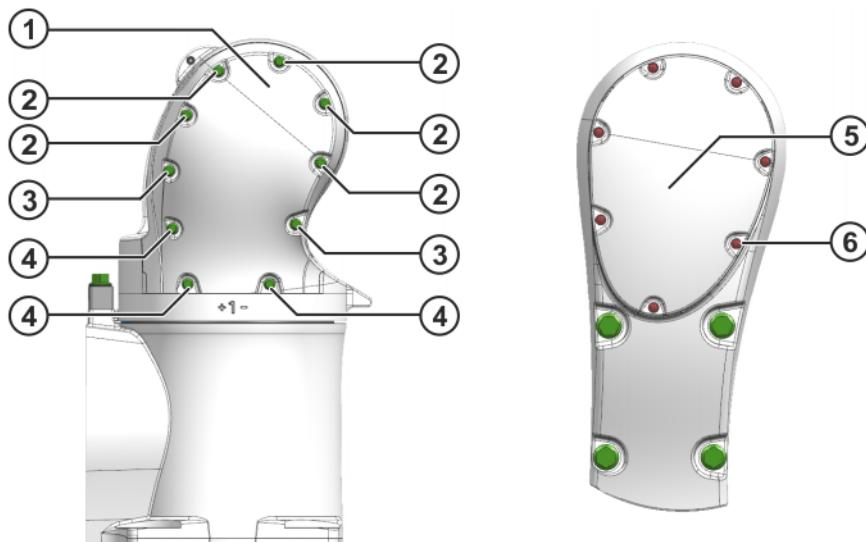

Fig. 9-2: Removing covers A2 and A3
1. Remove the following hexagon screws and USIT rings from cover A2 and take off cover A2 together with the seal (>>> Fig. 9-2):